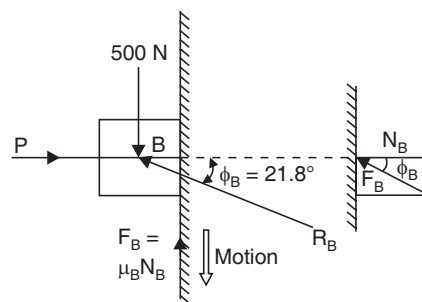

Fig. 6.39
**Minimum value of weight of block A,  $W$  :** We are to find out minimum value of  $W$  so that block B shall just slide down. Refer to Fig. 6.39. When the block B just slides down, the block B is in equilibrium under the action of the following: